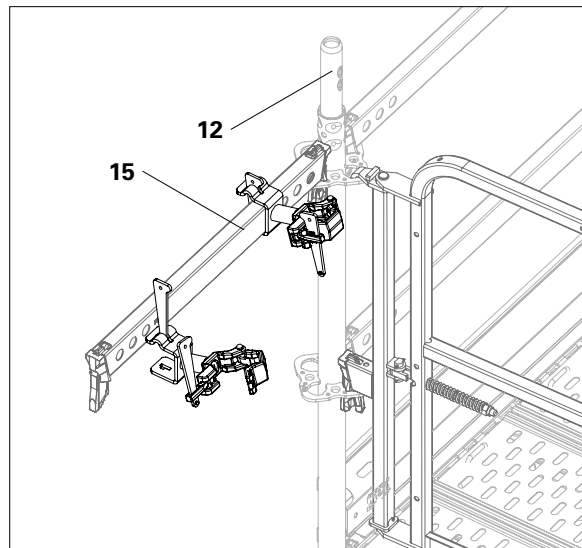
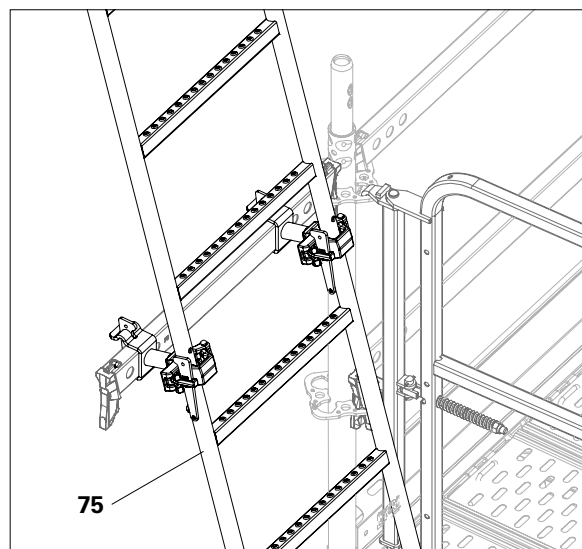

Fig. A9.06a
Fig. A9.06b
5. Close the ladder connectors and tighten the screws or hammer the wedges in tight. (Fig. A9.06a + Fig. A9.06b)